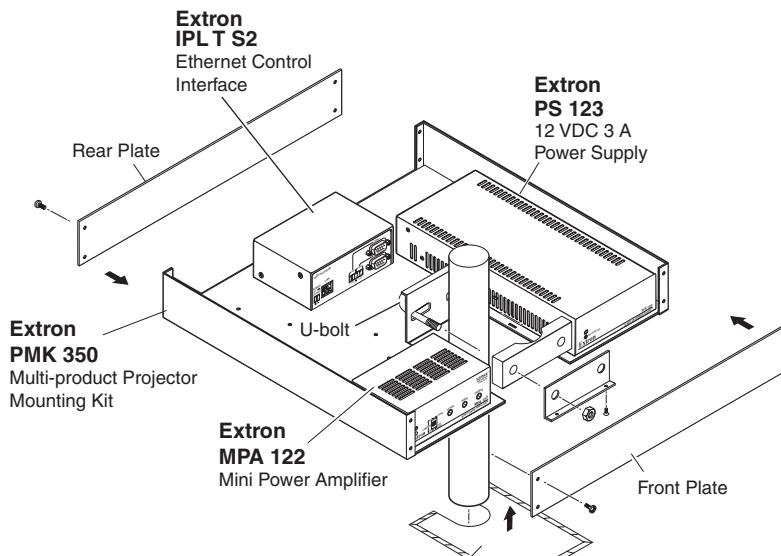

Figure 10 — Projector mounting the PS 123
The PMK 350 is an above-projector mounting kit that attaches to a 1" to 2" diameter projector mounting pole (figure 10). It can hold more than one device, in a variety of sizes. The PMK 350 is available in black (part #70-563-02) or white (part #70-563-03).
1. Remove the front and back plates from the PMK 350 (figure 10), using an Extron Tweaker or a #2 Phillips screwdriver. Retain the screws to reattach the plates when you are finished.
4. Place the PMK 350 around the projector ceiling mounting pole (figure 10, above).